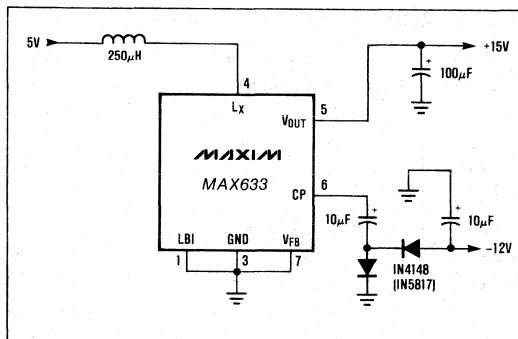
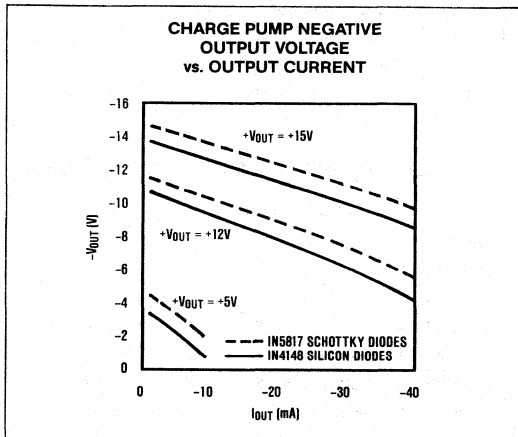

Figure 4. +5V to +15V/-12V Converter
Figure 5. Charge Pump Negative Output Voltage vs. Current
Both positive and negative output voltages can be generated with only one inductor when the charge pump (CP) output is connected as shown in Figure 4. The circuit provides approximately  $\pm 10$ mA with  $V_{OUT} = +15$ V, (MAX633), and  $\pm 15$ mA if  $V_{OUT} = +12$ V (MAX632). The negative output is about 3V less than  $V_{OUT}$  due to the forward voltage drop of the 1N4148 diodes and the output impedance of CP. Using Schottky diodes (IN5817) will increase the negative output by about 1V. The performance of the CP output is shown in Figure 5.